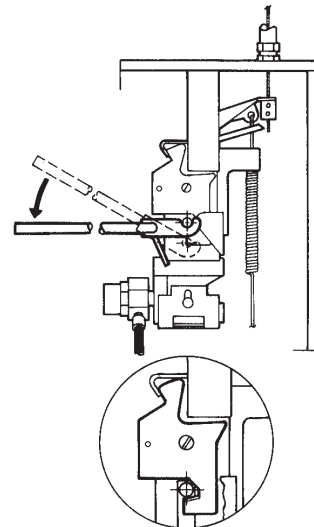

FIGURE 5-33
▶ 11. Using long handle cocking lever (Part No. 441041) or wrench on short handle cocking lever (Part No. 441042), pull down to raise cocking pin until the trip lever indented surface moves underneath the pin and locks the pin in the up position. See Figure 5-33.